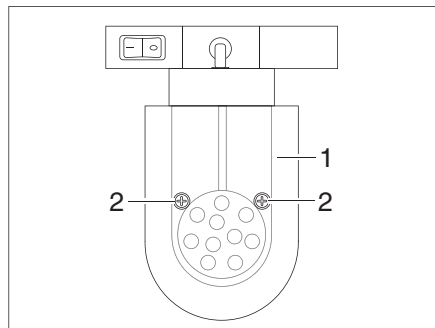

Fig. 139 LED spotlight (movable)
- ▶ Loosen the fixing screws (Fig. 139,2).
- ▶ Remove the lamp glass cover (Fig. 139,1) carefully.